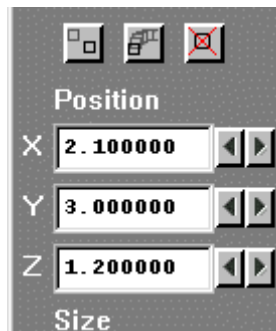

Figure 2.18 Monitoring position
- Next, a point in the flow domain should be set where the flow variables can be probed or monitored as the solution runs. The monitor point is shown as the red pencil (probe). It can be moved interactively with the X/Y/Z position up and down buttons, as long as no object is currently selected. For example, x position =2.1m, y position =3.0m and z position =1.2m for this case as shown in figure 2.18.